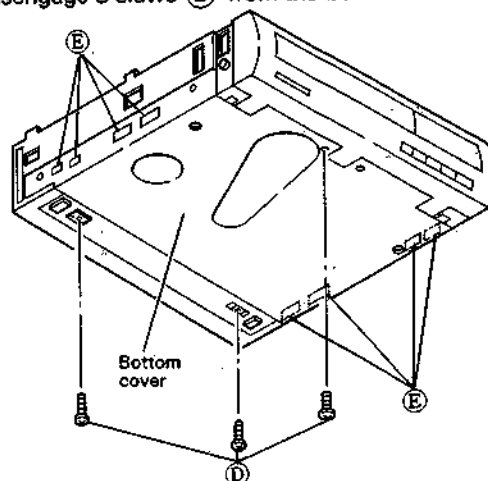

Fig. 1-1-3
2. Refer to Fig. 1-1-3 and take out 3 screws (D) and disengage 8 claws (E) from the bottom of the chassis.